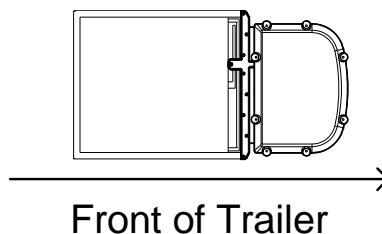

Figure 1
6.1. The MCU shall be orientated on the trailer roof as shown in Figure 1, with the electronics module pointing toward the front of the trailer.